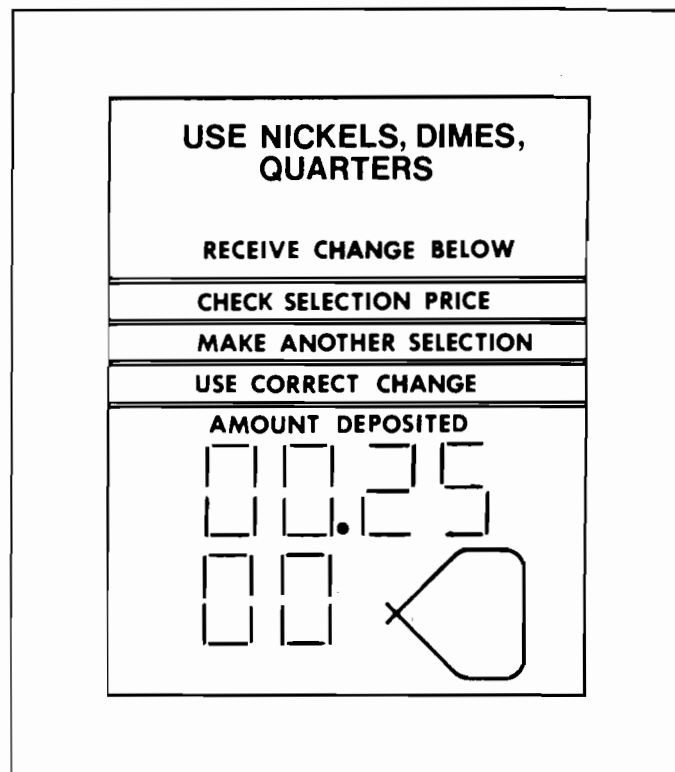

Figure 16.
- B. Press the letter and then the number for the first selection to be checked. The display will show the price and product code that selection is programmed for (Figure 16). Check the displayed price against the price tab on the shelf for that selection.